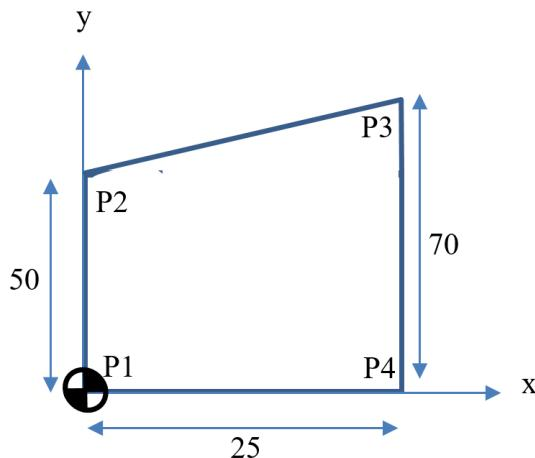

Figure 3(c) / Rajah 3(c)
- (c) Based on **Figure 3(c)**, write a CNC coordinate for P1, P2, P3 and P4 using the following system: